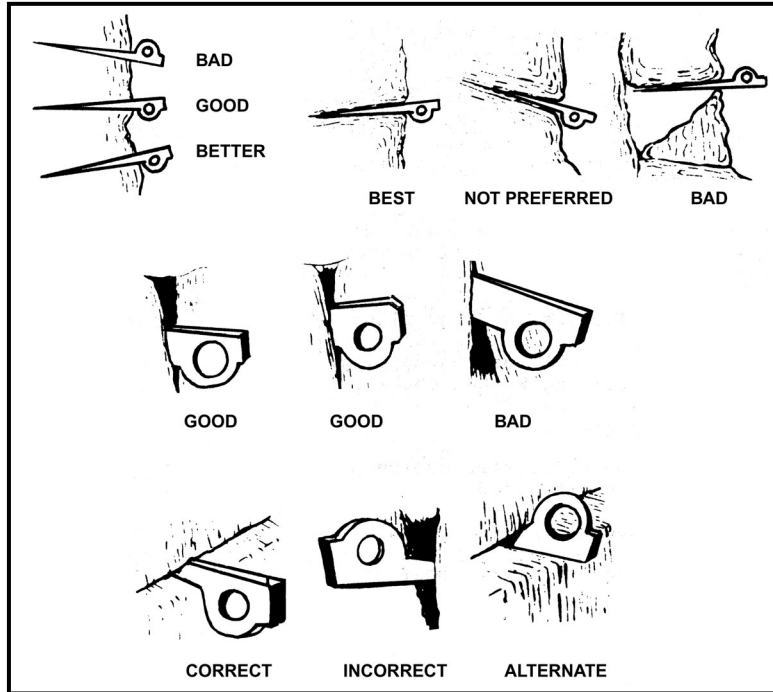

Figure 5-12. Examples of piton placements.
c. **Piton Placement.** The proper positioning or placement of pitons is critical. (Figure 5-12, page 5-10, shows examples of piton placement.) Usually a properly sized piton for a rock crack will fit one half to two thirds into the crack before being driven with the piton hammer. This helps ensure the depth of the crack is adequate for the size piton selected. As pitons are driven into the rock the pitch or sound that is made will change with each hammer blow, becoming higher pitched as the piton is driven in.
(1) Test the rock for soundness by tapping with the hammer. Driving pitons in soft or rotten rock is not recommended. When this type of rock must be used, clear the loose rock, dirt, and debris from the crack before driving the piton completely in.
(2) While it is being driven, attach the piton to a sling with a carabiner (an old carabiner should be used, if available) so that if the piton is knocked out of the crack, it will not be lost. The greater the resistance overcome while driving the piton, the firmer the anchor will be. The holding power depends on the climber placing the piton in a sound crack, and on the type of rock. The piton should not spread the rock, thereby loosening the emplacement.